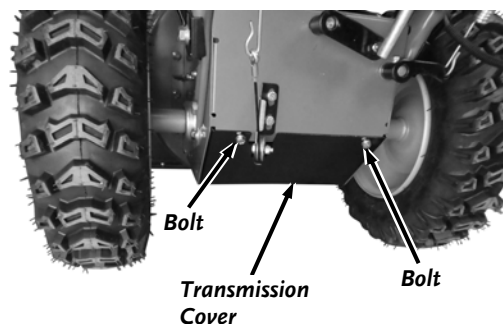

Figure 56
3. Remove the two Bolts that secure the Transmission Cover using a 13mm Wrench and Remove the Transmission Cover (**Figure 56**).